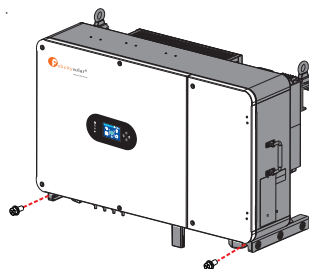

Figure 3.4-2 Installing an Inverter
Step 2. Lift the inverter to suspend it on the installation bracket, We can prevent theft by locking. See Figure 3.4-2